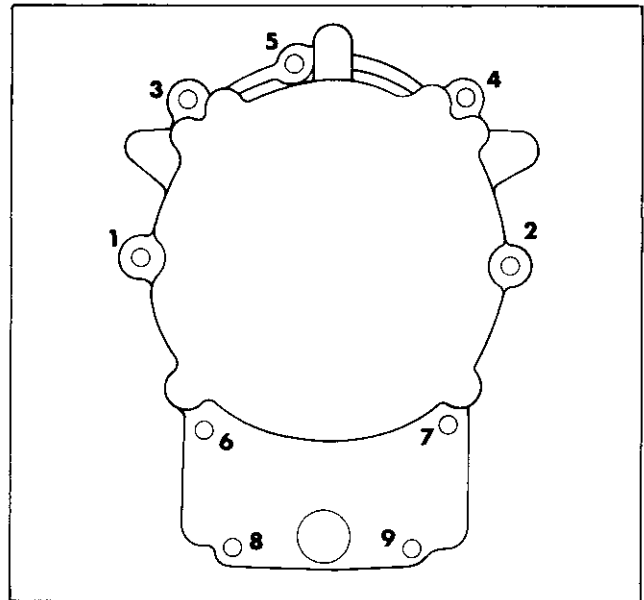

Figure 8-26. Closure Plate Screw Tightening Sequence
7. Position closure plate gasket on crankcase. Secure plate to case, with nine 5/16-18 x 1" hex washer screws turned in finger tight. Tighten the screws to 150 in. lbs. following the recommended tightening sequence shown in Figure 8-26.